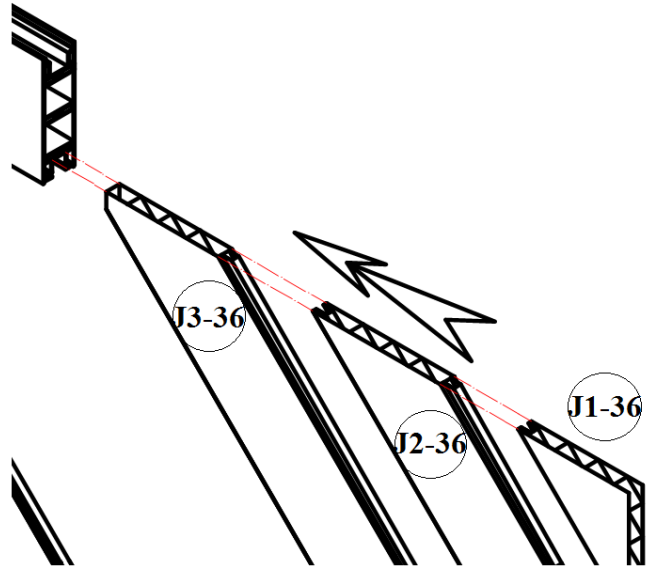

Figure 6B
Finally, insert the remaining J3-36 panel, J2-36 panel and J1-36 panel into the open space between installed J-36 panel and Rail (C) at upper portion of door. Make sure that the open edge with cut-off corner of J3-36 panel shall be slide into the groove of Rail (C) and also that the groove of the J3-36 panel shall face downward in order to catch the upward tongue of J-36 panel. Same process shall be used on applying J2-36 panel to J3-36 panel as well as J1-36 panel to J2-36 panel to fill up that open space. See **Figure 6B & 6C**.